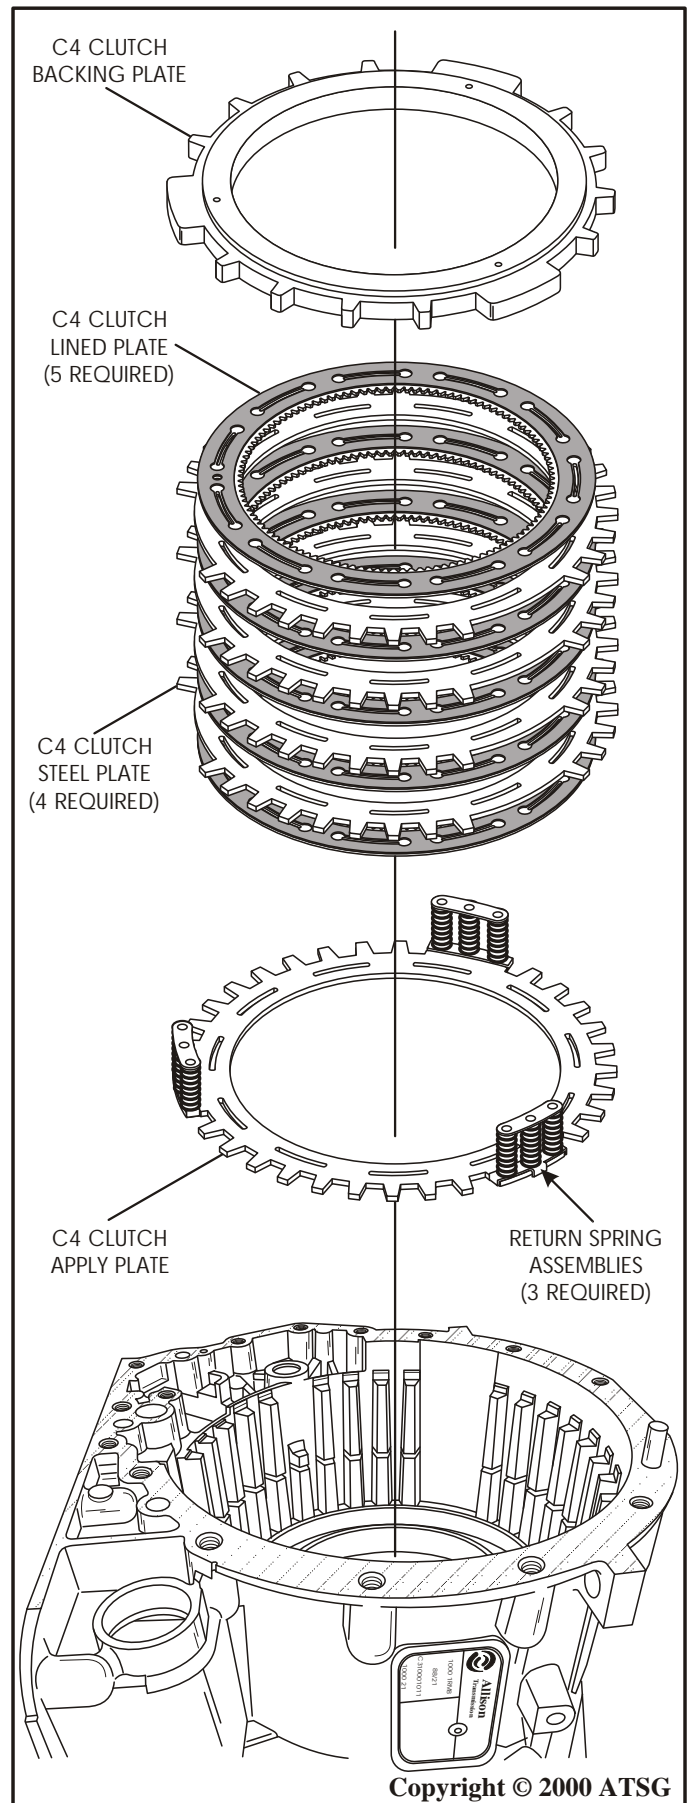

Figure 67
50. Remove the C4 clutch backing plate from the case as shown in Figure 67.
51. Remove the C4 clutches both lined and steel from the case, as shown in Figure 67.
52. Remove the C4 clutch apply plate with the 3 return spring assemblies on it from the case as shown in Figure 67.
Note: These three return spring assemblies just clip onto apply plate (See Figure 67).